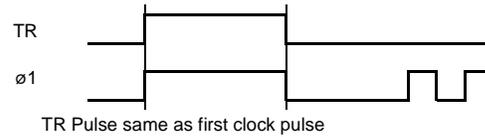

Figure 32: TR- $\emptyset 1$ Guardband Can Be Equal To 0
- The TR- $\emptyset 1$ guardband may be equal to 0, causing TR and $\emptyset 1$ to go high simultaneously and low simultaneously (Figure 32). This is a requirement of some Canon CIS sensors.